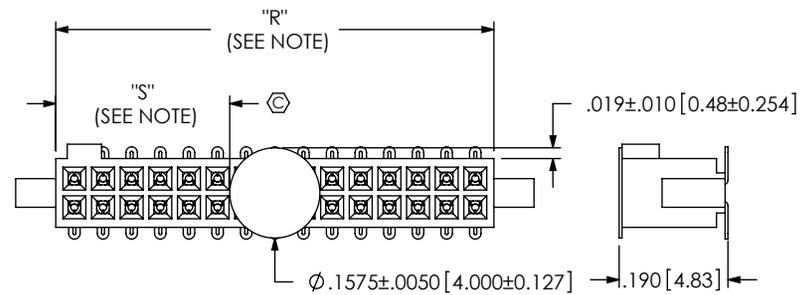

FIG 3
- K: POLYIMIDE FILM PAD (.005[0.13] THICKNESS WITH SILICONE ADHESIVE) (SEE FIG. 3, SHT. 2) (USE K-500-300)